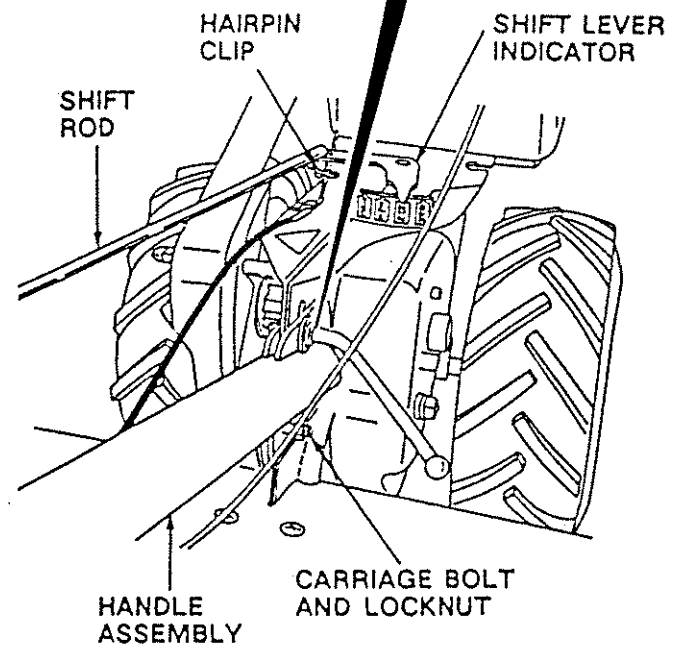

FIGURE 6
NOTE: Insert rear Carriage Bolt (Fig. 6) first, with head of Bolt on L.H. side of Tiller. Lower the Handle Assembly. Tighten Bolts so Handle moves with some resistance.
- d. Insert second Handle Lock (with teeth INWARD) in slot Handle Base (Fig. 6-Inset).
- f. Insert Handle Lock Lever through Handle Base and Gearcase (Fig. 6-Inset).
- b. Swing Shift Rod to the right side of Tiller and insert one of two Hairpin Clips through hole of Shift Rod (Fig. 6). Hairpin Clip shipped in Bag of Parts.
- a. Make sure Shift Lever Indicator (Fig. 6) is in "N" Neutral position.